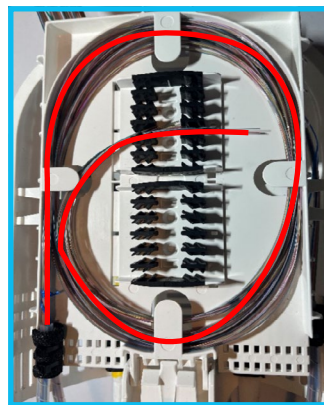

Figure 10.1
1. Fibres entering the left-hand side of the tray should loop 3 times (>1m) and enter the left-hand side splice protector holders from the top position down [Figure 10.1].